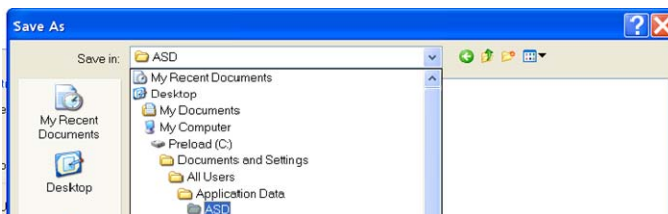

Figure 3-63: ASD Folder
- Step 13 When prompted, navigate to the ASD folder created when the ASD Applications Software was installed— C:\Documents and Settings\All Users\Application Data\ASD (Figure 3-63).